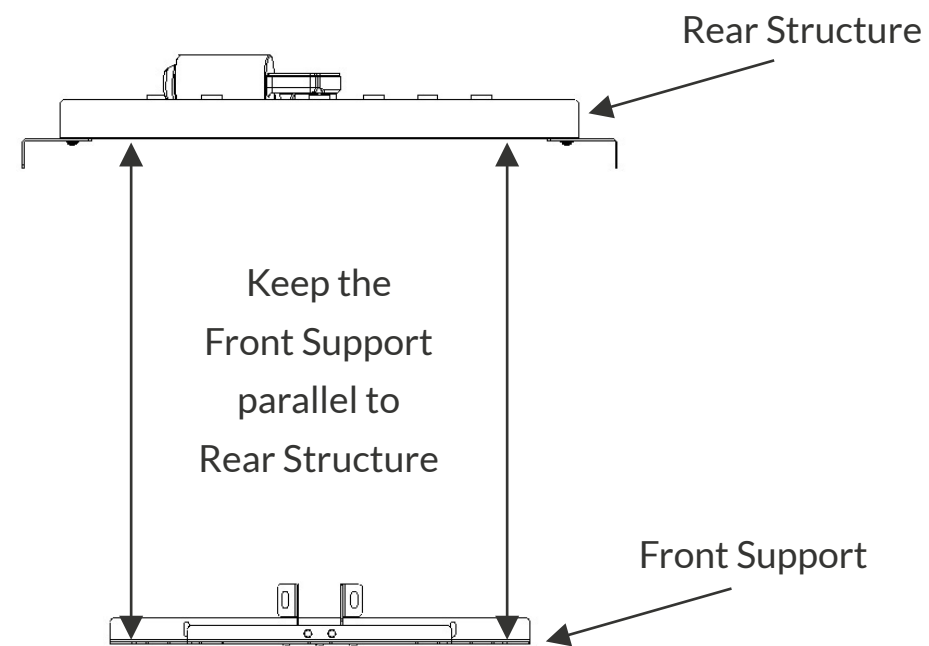

Figure 4 (upper view)
b) When installing the Front Support, which is responsible for holding the skewers, position it so that it is aligned and parallel with the rear skewer slots, keeping it centered on the Front Wall of your grill, avoiding misalignment. See Figure 4.